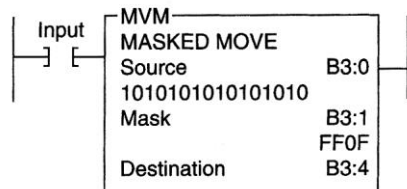

Figure 10-36 Masked move instruction program for assignment 12.
12) Enter the masked move instruction program of Figure 10-36 into the PLC, and prove its operation.